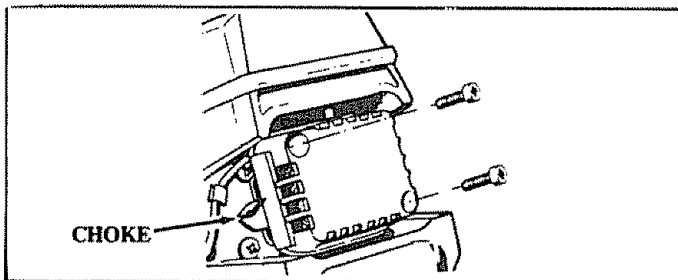

Figure 27
1. Loosen the two screws on the Air Filter Cover enough to remove the cover from the engine. Figure 27.